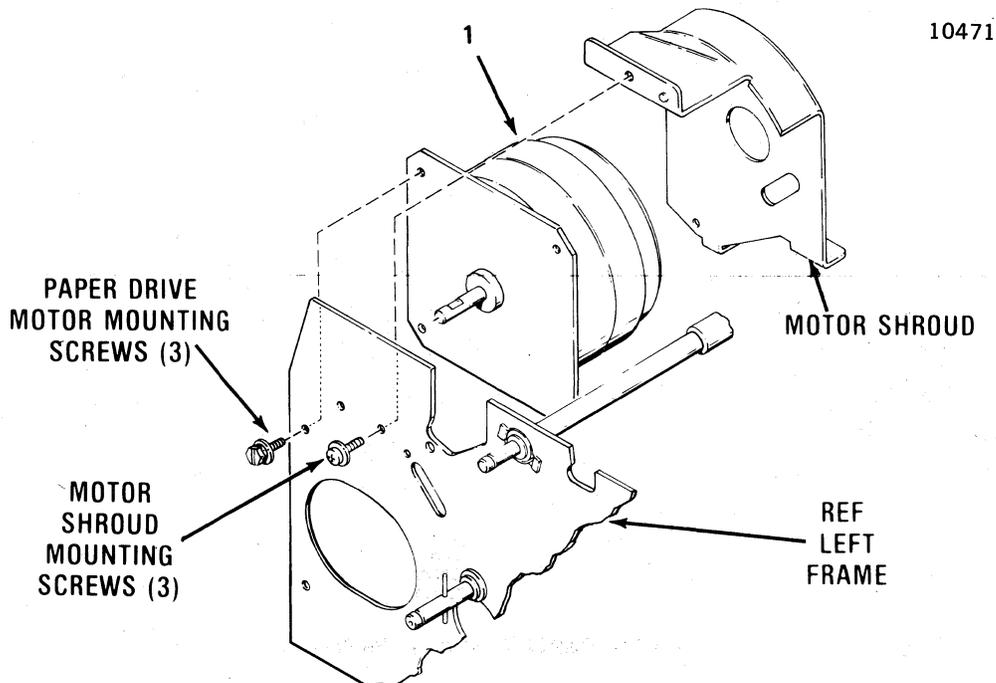

Figure 5-15. REMOVAL/REPLACEMENT, PAPER DRIVE MOTOR
The paper drive motor, item 1 of Figure 5-15, is attached to the inside of the left frame and is removed using a Phillips head screwdriver and a flat blade screwdriver. To remove the motor, refer to Figure 5-15 and perform the following steps: